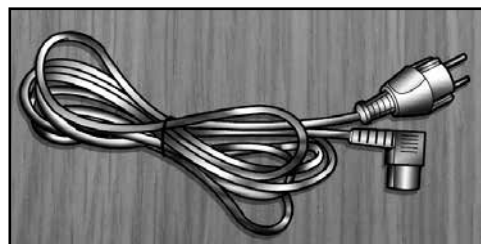

Fig. 4
- No. 1 power cable (**Fig. 4**).